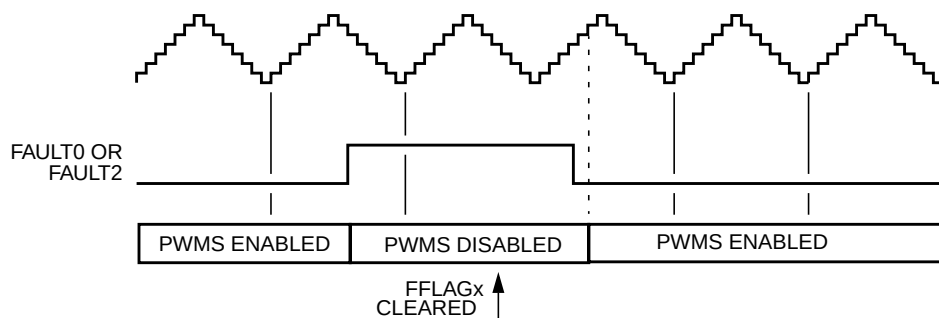
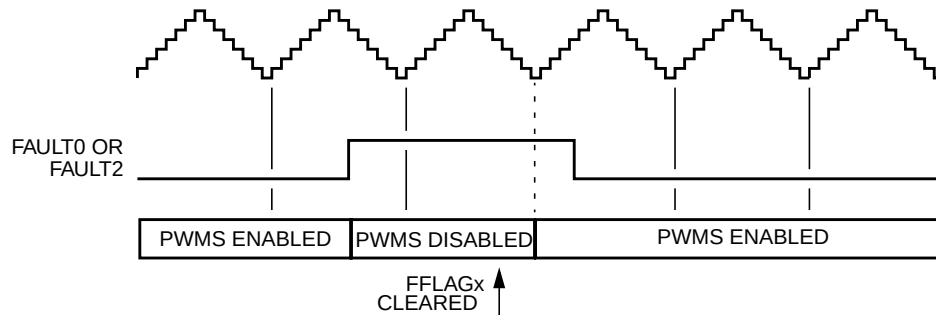

Figure 11-77. Manual Fault Clearing (Faults 0 & 2) — QSMP = 00
**Figure 11-78. Manual Fault Clearing (Faults 0 & 2) - QSMP=01, 10, or 11**
- PWM pins disabled by the FAULT0 pin or the FAULT2 pin are enabled by clearing the corresponding FFLAGx flag. The time at which the PWM pins are enabled depends on the corresponding QSMPx bit setting. If QSMPx = 00, the PWM pins are enabled on the next IP bus cycle when the logic level detected by the filter at the fault pin is logic zero. If QSMPx = 01, 10 or 11, the PWMs are enabled when the next PWM half cycle begins regardless of the state of the logic level detected by the filter at the fault. See Figure 11-77 and Figure 11-78.